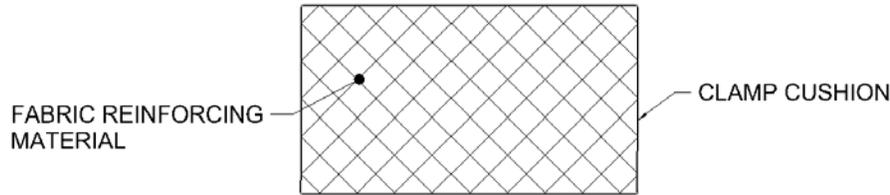

FIGURE 3 - CUSHION REINFORCEMENT
- b. S - FABRIC REINFORCED SILICONE RUBBER, 65-75 DUROMETER (ON REINFORCED MATERIAL), COLOR LIGHT BLUE, PER AMS3316. THE FABRIC REINFORCING MATERIAL SHALL BE MOLDED INTO THE BAND SIDE OF THE CLAMP CUSHION AT (45°) ANGLE (SEE FIGURE 3).